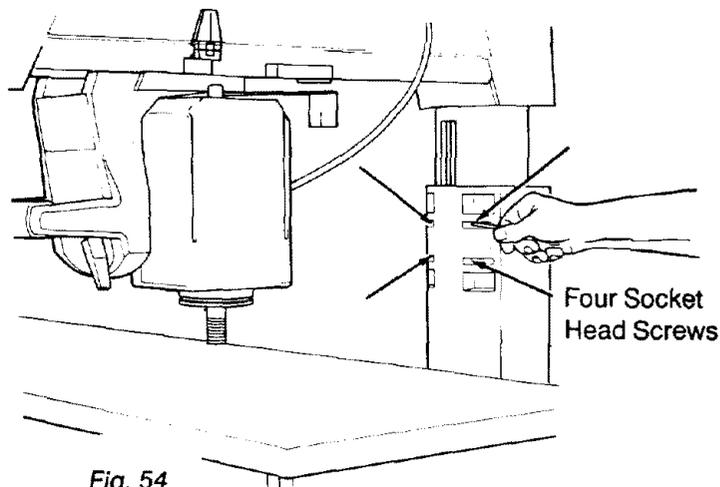

Fig. 54
11. Use a 3/16" hex “L” wrench to loosen the four screws in the front of the *column support* slightly, if you have not already done so in the *Adjusting Elevation* section. (Figure 54)